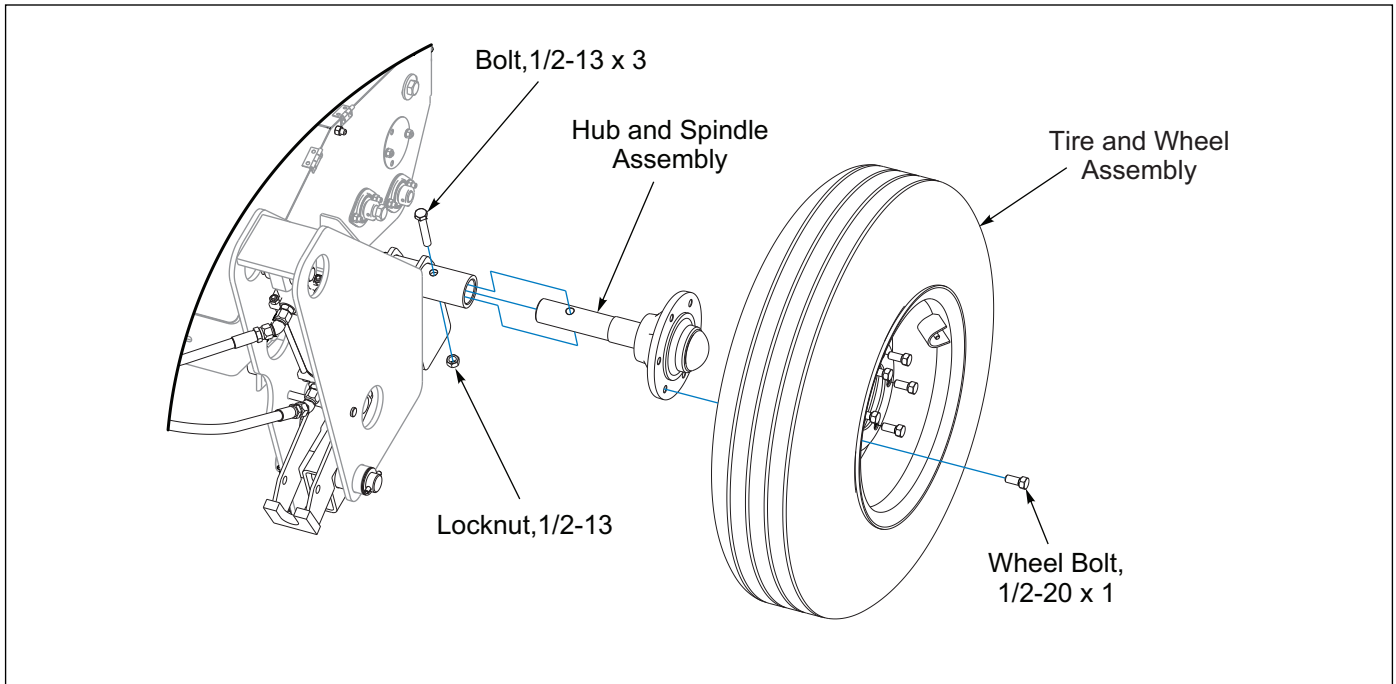

Figure 2-7: Hub and Spindle
6. Apply anti-seize to Spindles and insert a Hub and Spindle Assemblies into each Wheel Arm. Secure in Spindles farthest hole from the Hub with 1/2-20 x 1 Bolts and Locknuts. **See Figure 2-7.**